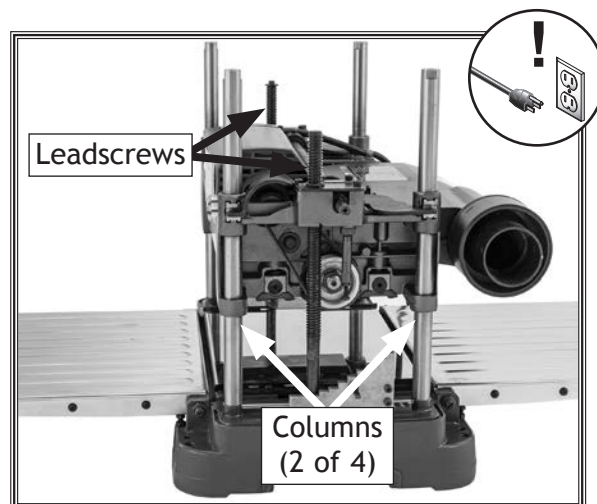

Figure 24. Location of cutterhead columns and leadscrews.
2. Lower headstock fully and remove side panels to expose leadscrews and columns (see **Figure 24**).